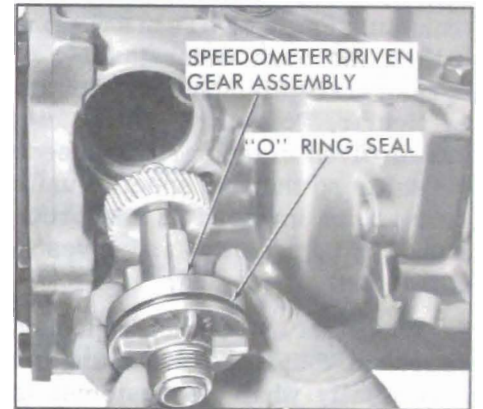

Figure 5-731
1. Install the speedometer driven gear assembly. See Figure 5-731.